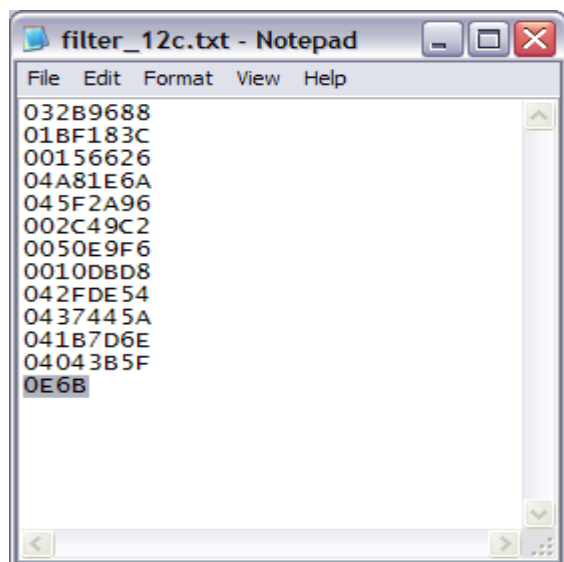

Figure 11. Example of format required for filter coefficients to be downloaded correctly.
11. An example of this format is shown in Figure 11. This example corresponds to the example digital filter in the Downloading A User Defined Filter section in the AD7763 datasheet.